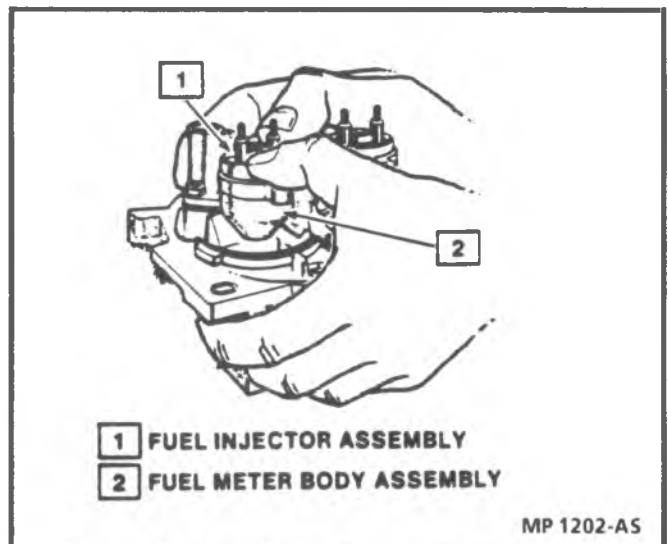

Figure 4-28 - Installing Fuel Injector - TBI 220
4. Injector, aligning raised lug on each injector base with notch in fuel meter body cavity. Push down on injector until it is fully seated in fuel meter body (Figure 4-28). (Electrical terminals of injector should be parallel with throttle shaft).